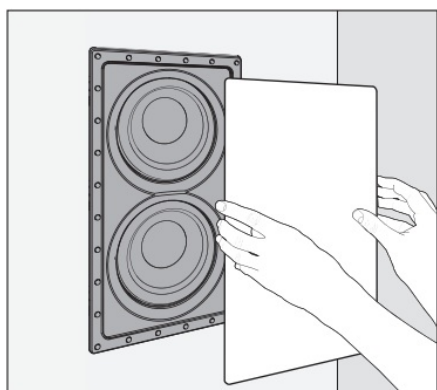

Fig. 4e
6) Gently press the grille onto the front face of the speaker (Fig. 4e). The magnets will ensure correct attachment.